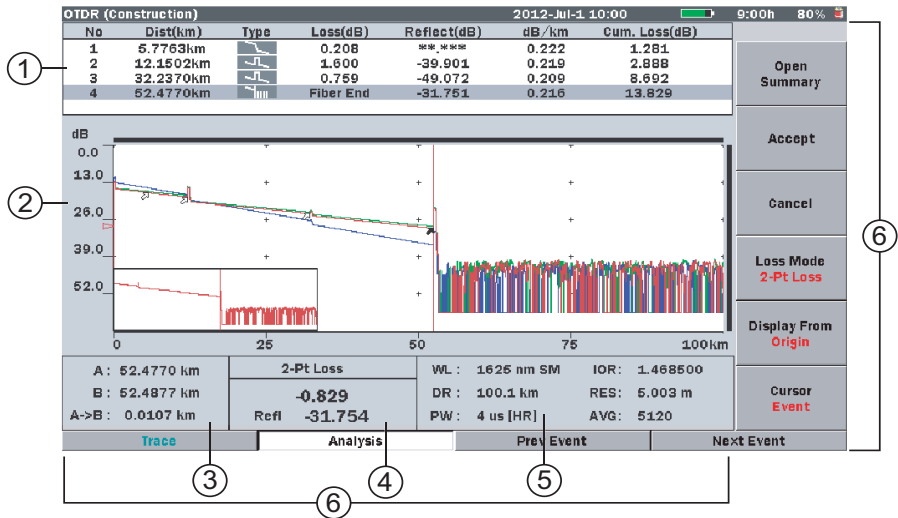

Figure 6-20: Test Results screen with Summary Closed
The Cursor Distance information (see item 3 in Figure 6-20 on page 6-52) displays the following:
The Loss Mode, Measurement, and Reflectance area (see item 4 in Figure 6-20 on page 6-52) displays the following: